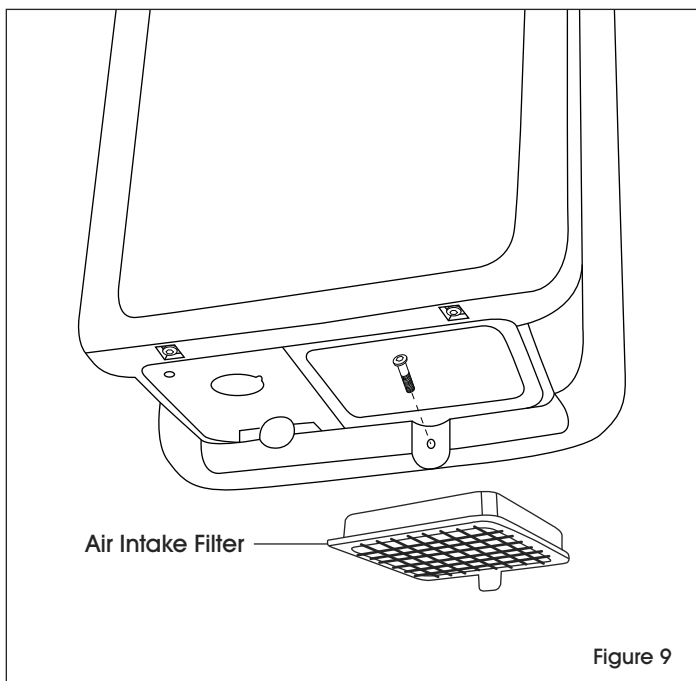

Figure 9
13. Remove air intake filter and secure hand dryer through inner hole. Insert filter and connect unit. (See Figure 9)